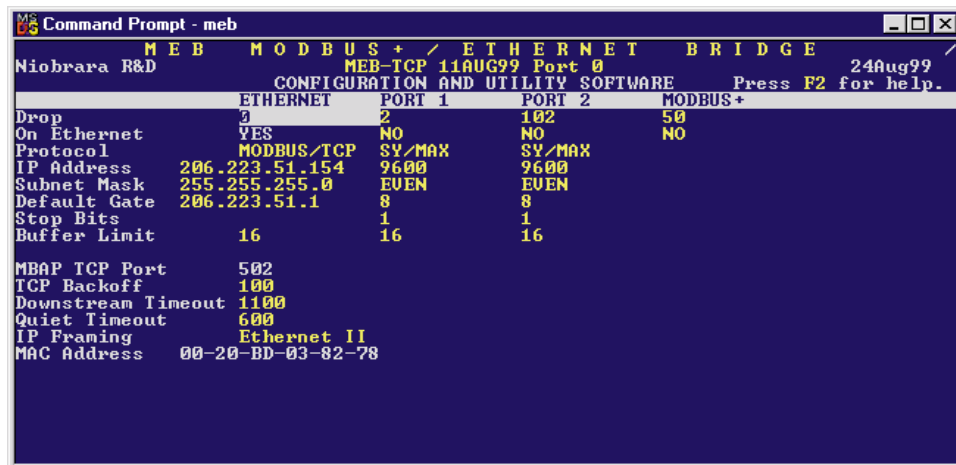

Figure 2-4 Online Edit Screen
- 3 Press N for oNline followed by E for Edit. The MEBSW will attempt to communicate to the MEB and display the parameters of the module. The yellow TX and RX lights under the MEB serial port should be flashing quickly. The yellow busy light at the top of the module should be slightly brighter. If the setup parameters are correct, the screen should appear as in Figure 2-4.